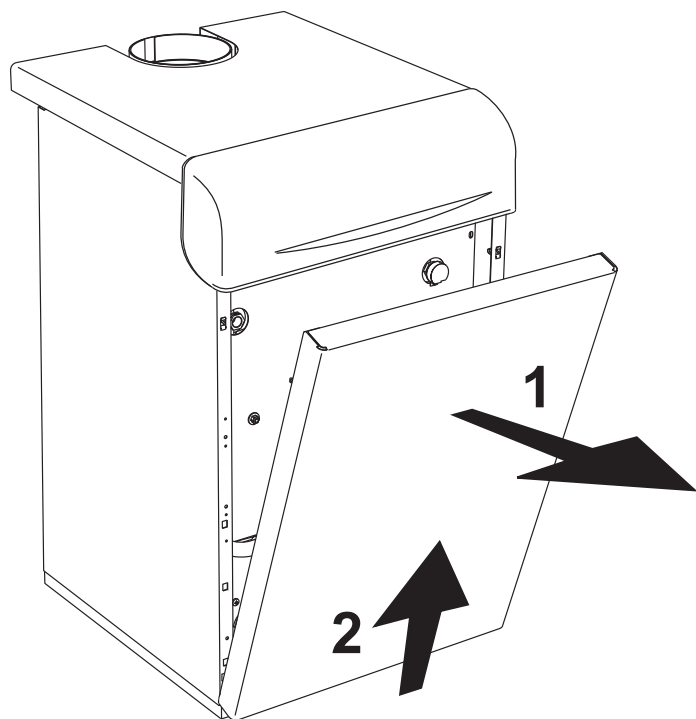

fig. 4 - Front panel opening
To open the boiler front panel, see the sequence in fig. 4.
- Remove the front panel of the boiler (fig. 4).